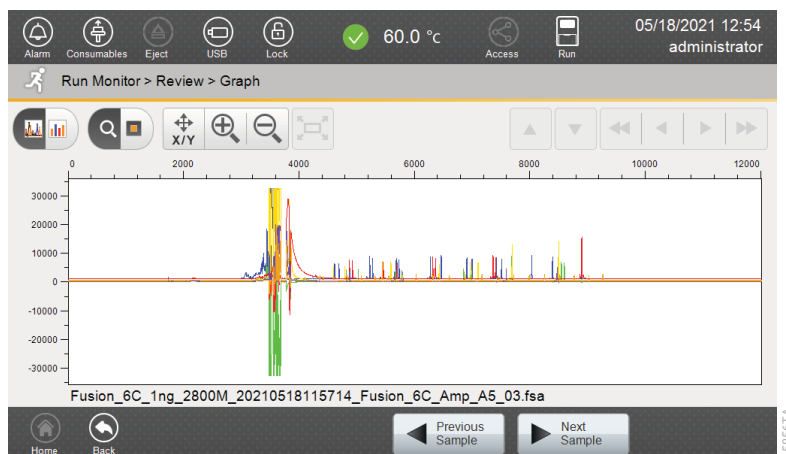
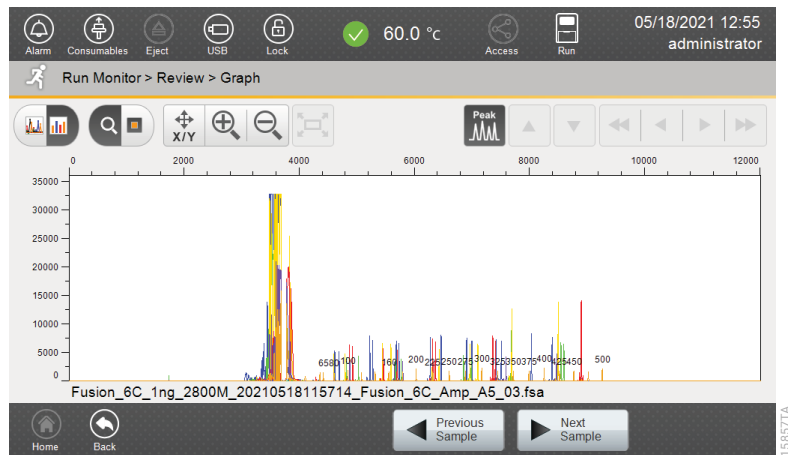
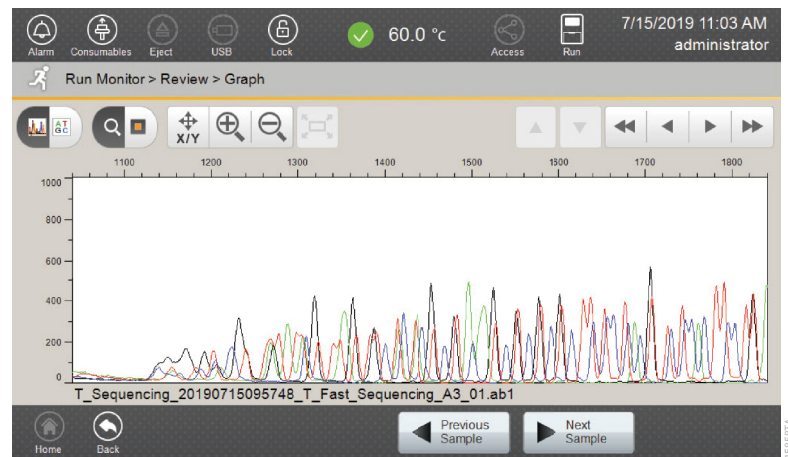
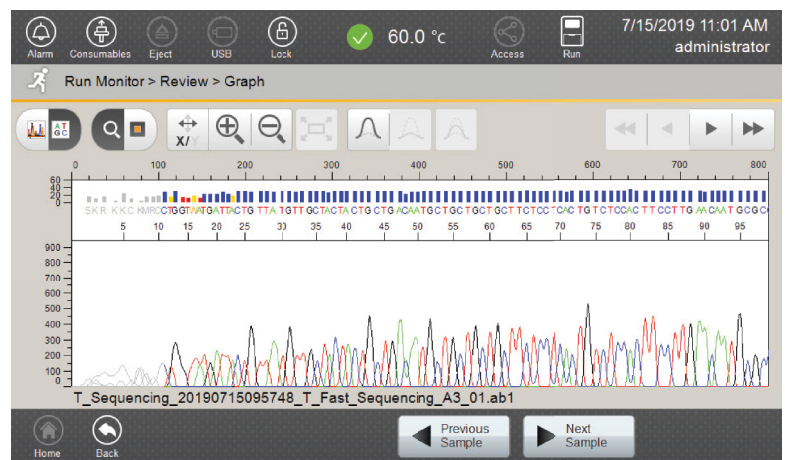

Figure 102. Fragment Analysis 'Result' tab raw data.
Figure 103. Fragment Analysis 'Result' tab analyzed data.
Figure 104. Sequencing Analysis 'Result' tab raw data.
Figure 105. Sequencing Analysis 'Result' tab analyzed data.
- The raw data electropherogram is the default view of the 'Graph' screen. To view the analyzed data electropherogram, select the data toggle button in the upper left corner of the screen to toggle between raw and analyzed views (Figure 102, Figure 103, Figure 104 and Figure 105).
9. You can use **Previous Sample** and **Next Sample** in the footer (Figure 102, Figure 103, Figure 104 and Figure 105) to navigate through the samples of a run. To return to the 'Result' tab, select **Back** in the footer.